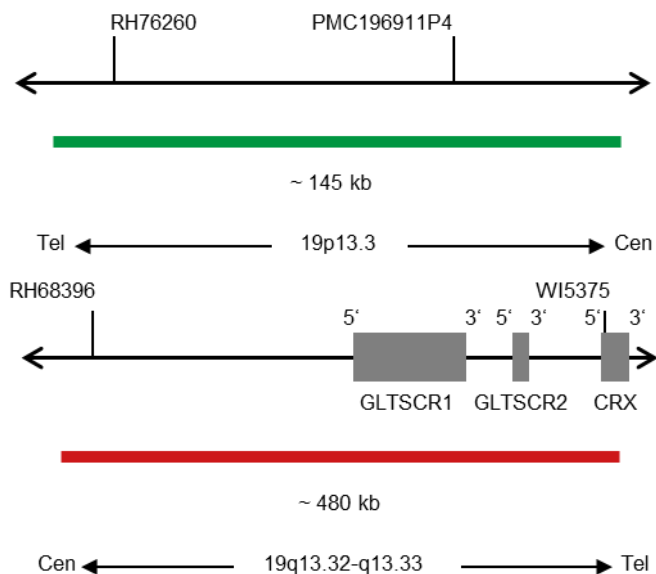

Fig. 1: Top: SPEC 19p13 Probe map; Bottom: SPEC 19q13 Probe map (not to scale)
- Digoxigenin-labeled polynucleotides (~0.8 ng/ μ l), which target sequences mapping in 19p13.3* (chr19:815,938-962,244) (see Fig. 1).
- Dinitrophenyl-labeled polynucleotides (~0.8 ng/ μ l), which target sequences mapping in 19q13.32-q13.33* (chr19:47,857,776-48,339,398) (see Fig. 1).